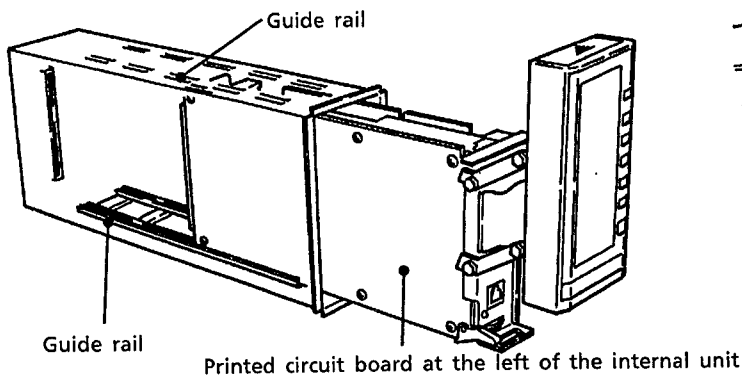

Figure 3.9 Installing the Internal Unit 1
- ① Set the printed circuit board, which is at the left of the internal unit, in the guide rails at the left top and the left bottom in the housing (see Figure 3.9). Then, push in the internal unit until it touches the connector at the back and clicks. The release lever is set back to the hold position.